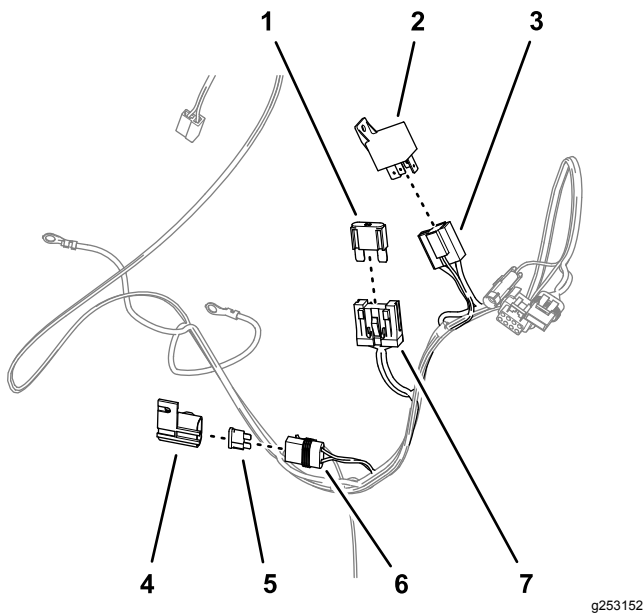

Figure 5
1. Insert the maxifuse (60 A) into the large 2-slot fuse holder of the power harness (Figure 5).
2. Remove the cover from the small fuse holder (Figure 5).
3. Insert the fuse (10 A) into the small fuse holder and install the cover (Figure 5).
4. Insert the solenoid into the 4-slot connector (Figure 5).